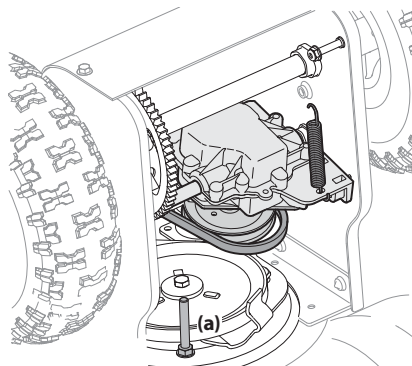

Figure 4-17
- Tip the snow thrower up and forward so that it rests on the auger housing. Remove the belt keeper (a). See Figure 4-17. Return the snow thrower to its upright position to complete the following steps.